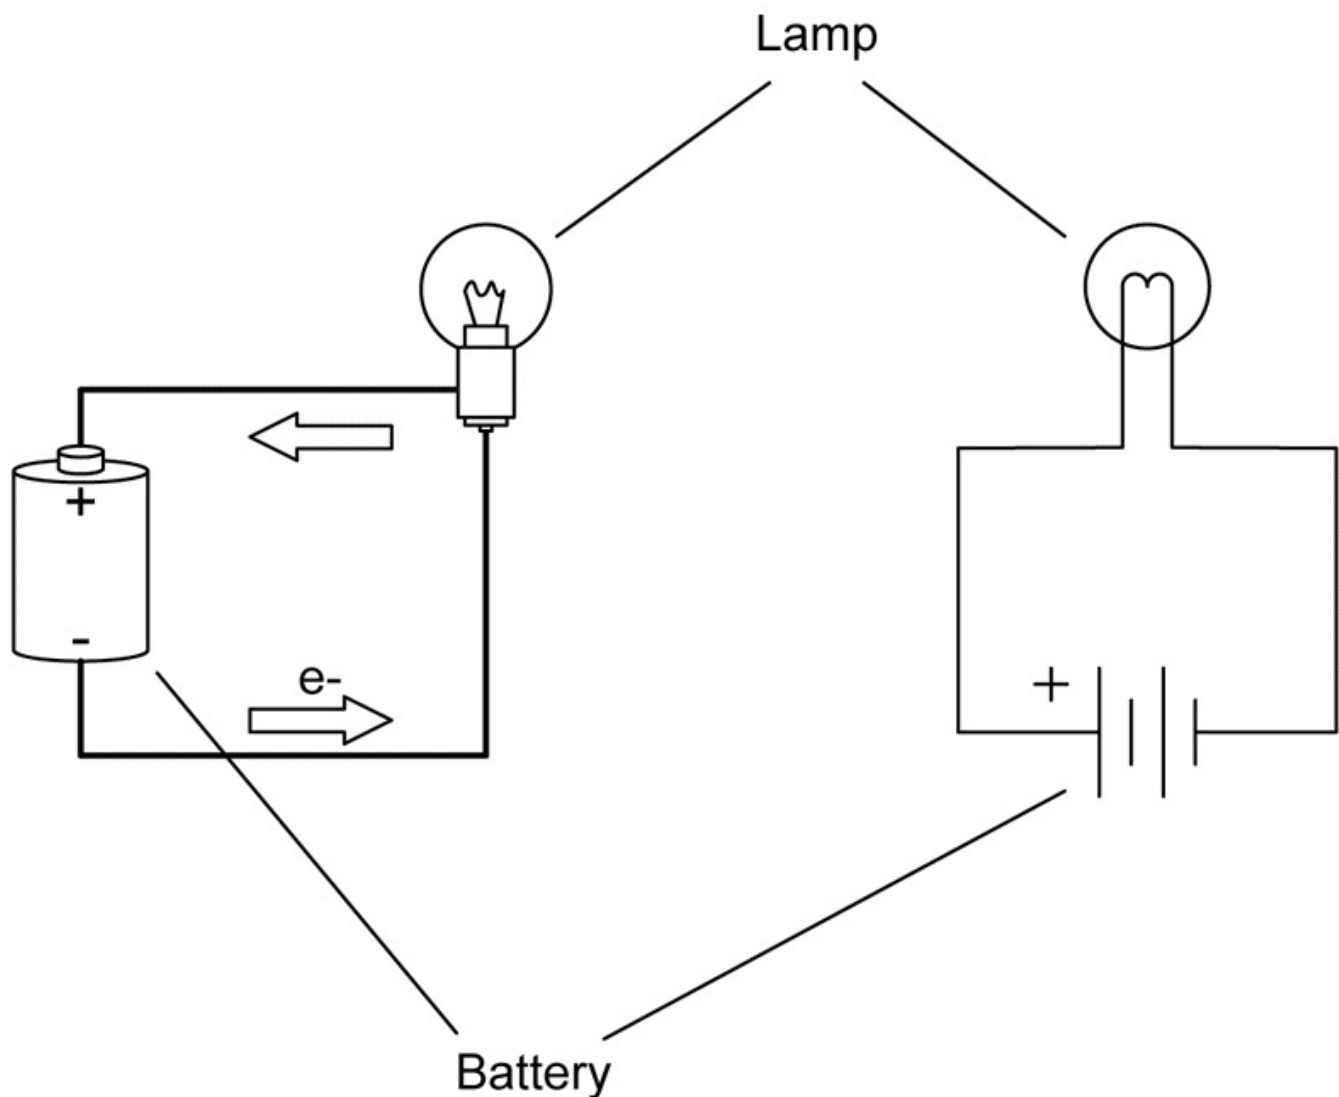

Figure 1-4. A simple DC circuit
Electric current flow (a physical phenomenon) is characterized by four fundamental quantities: voltage, current, resistance, and power. We'll use the simple circuit shown in **Figure 1-4** as our baseline for the following discussion. Notice that the circuit is shown both in picture and schematic form. For more about schematic symbols, refer to **Appendix B**.
Current that flows in only one direction, as in Figure 1-4, is called *direct current* (DC). A common battery produces DC, as does the DC power supply in a typical computer system. Current that changes direction repeatedly is called *alternating current* (AC). AC is what comes out of a household wall socket (in the US, for example). It is also the type of current that drives the loudspeakers in a stereo system. The rate at which the current changes direction is called the *frequency* and is measured in cycles per second in units of Hertz (abbreviated Hz). So, a 60 Hz signal is made up of a current flow changing direction 60 times per second. When AC is used to drive a loudspeaker, a signal with a frequency of 440 Hz will be A above middle C to our ears.
By convention, DC is described as flowing from positive to ground (negative), whereas in reality, electrons flow from the negative terminal to the positive terminal of the power source. In Figure 1-4, the arrows show the electron flow. Basically, the discrepancy stems from an erroneous assumption made by Benjamin Franklin, who thought that electrons had a positive charge and flowed from positive to negative terminals. He guessed wrong, but we ended up with a convention that was already well ingrained by the time physicists figured out what was really going on. Hence we have conventional current flow and electron current flow. Although you should be aware of this discrepancy, from this point onward, we'll use conventional current flow, since that is what most of the electronics industry uses.
This simple equation is fundamental to electronics, and indeed it is often the only equation that you really need to get things going. In **Figure 1-4**, the circuit has only two components: a battery and a lamp. The lamp comprises what is called the *load* in the circuit, and it exhibits a resistance to current flow. Incandescent lamps have a resistance that varies according to temperature, but for our purposes, we'll assume that the lamp has a resistance of 2 ohms when it is glowing brightly.
In the simple circuit shown in **Figure 1-4**, the flow of electrons through the filament in the lamp causes it to heat up to the point where it glows brightly (between 1,600 to 2,800 degrees C or so). The filament in the lamp gets hot because it has resistance, so current flows less easily through the filament than it does through the wires in the circuit.